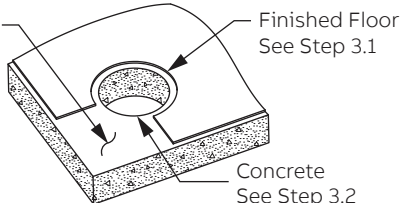

Figure 3
3.2 Core drill a 8" Diameter Hole. Actual hole size may be 8⅞" diameter due to drill bit and job site construction tolerance (See Figure 3).